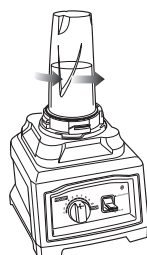

Fig. 12
- 7 When you have reached your desired consistency, turn the Nutri Ninja Cup counter-clockwise (Fig.12) and pull straight up to remove. (Fig. 13)